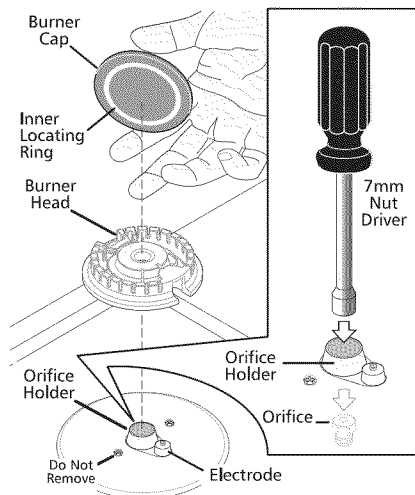

Fig. 6
- Remove 4 factory installed natural gas orifices from the center of the orifice holders using a 7 mm nutdriver (See Fig. 6).